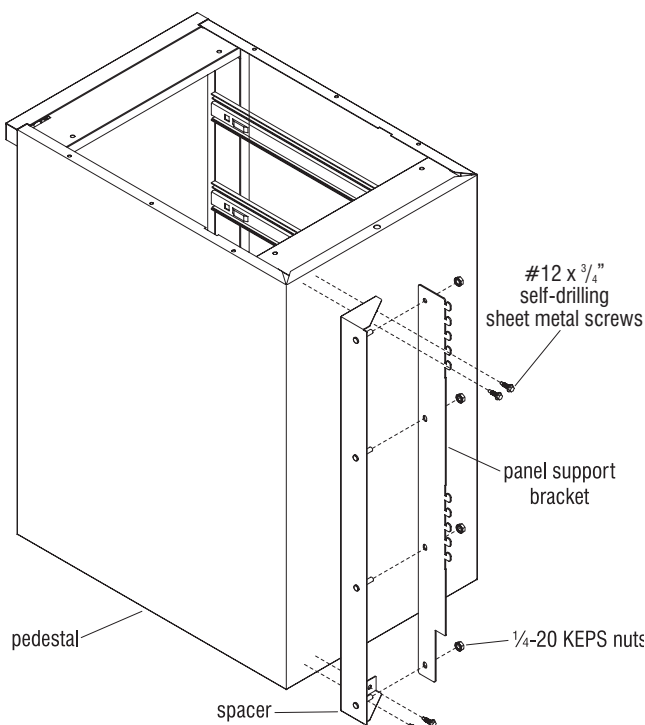

Figure 24
1. Position the spacer along the top and side edge of the pedestal as shown (Figure 24).
2. Properly align the spacer to the top and side of the pedestal and use four #12 x 3/4" self-drilling sheet metal screws to secure the spacer to the cabinet (Figure 24).
3. Position the teeth of the panel support bracket face-up and slide the support bracket to the threaded studs on the spacer. Use four 1/4-20 KEPS nuts provided to secure bracket to spacer (Figure 24).